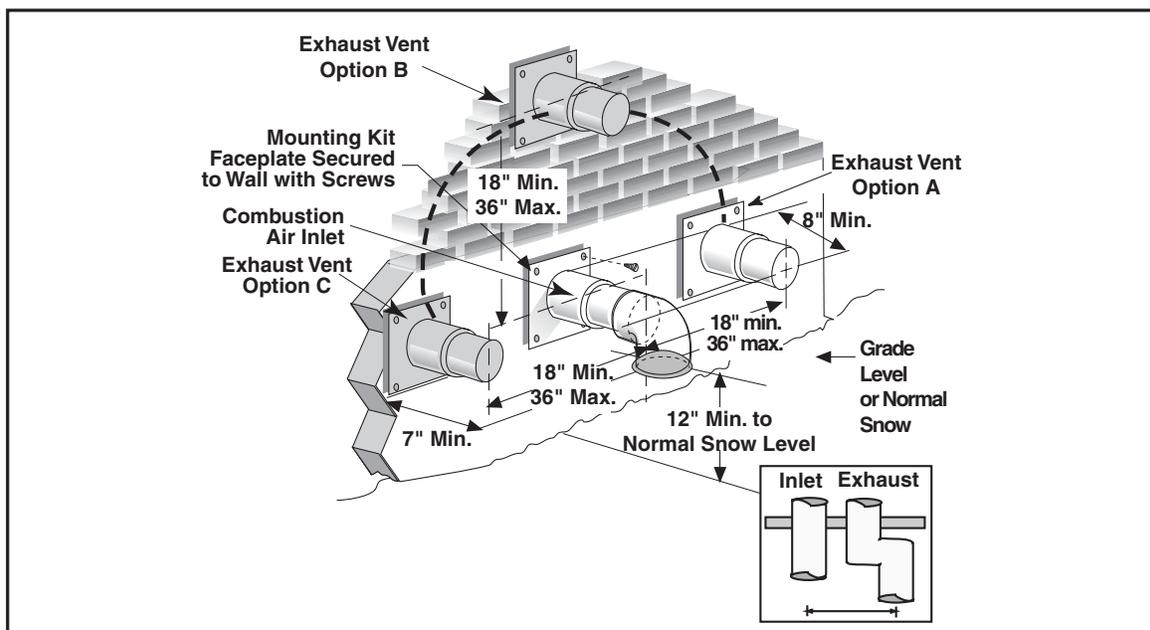

Figure 21. Exhaust and Combustion Air Pipe Clearances
Vent and combustion air intake terminations must be as shown in Figure 21. Vent termination clearances shall be consistent with the National Fuel Gas Code, ANSI Z223.1/NFPA 54 and/or the CSA B149.1, Natural Gas & Propane Installation code.
Ensure that the combustion air vent and the exhaust vent are configured as shown in Figure 21. Improper vent termination can cause recirculation of the flue gases. This may result in furnace vibration. In severe cases, the furnace will cycle due to the intermittent contact between the flame and the flame sensor. If you note oscillations occurring, check the vent configuration. Make sure that the exhaust vent does not have a 90 degree termination.
4. Insure the combustion air inlet pipe (for a 2 pipe installation) has a 90 degree termination elbow as shown in Figures 21 and 22.